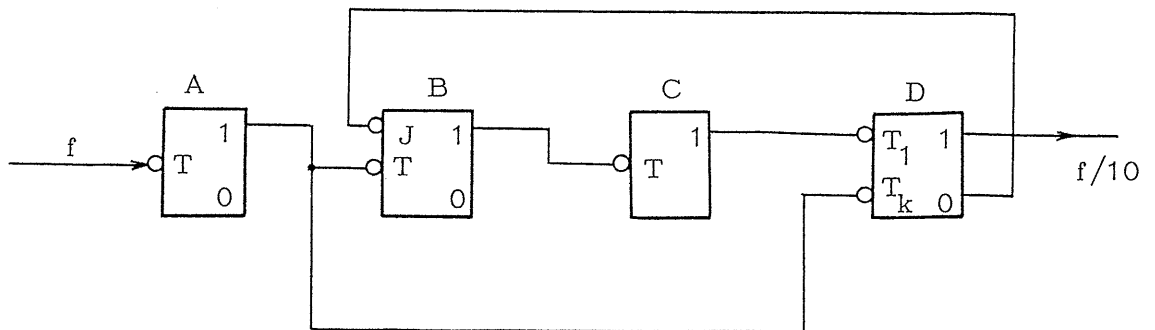

Fig. 4-8
The 8-4-2-1 code counter has four F.F. stages connected in cascade, as shown in Fig. 4-8, to compose a decimal counter through feedback from F.F.(D) to terminal J of F.F.(B). Table 4.1 shows the output of each F.F.